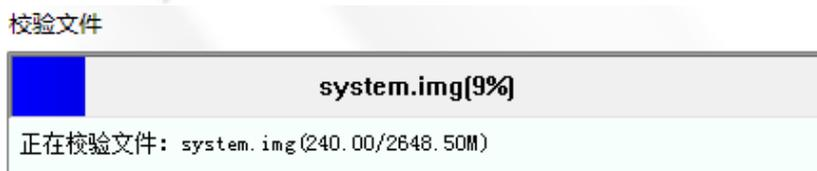

Figure2.2 Calibration interface
2. Click the  "start" button, main interface pop-up file verification dialog box, as shown in Figure 2.2,